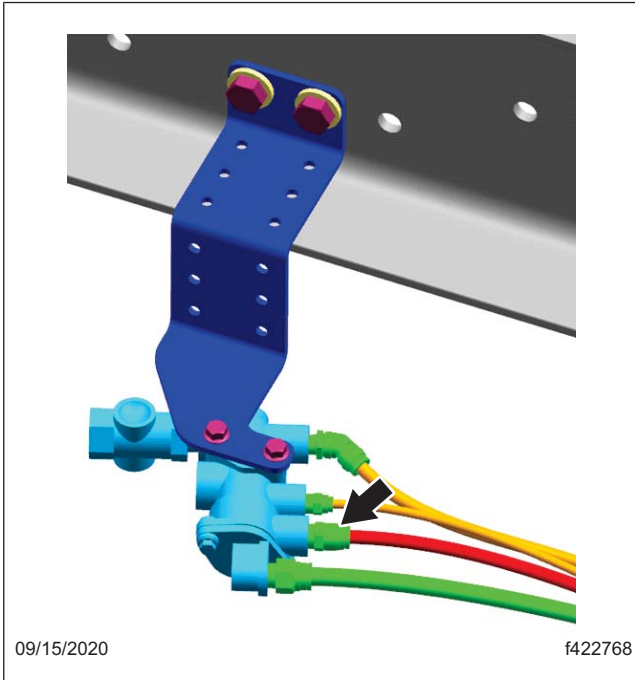
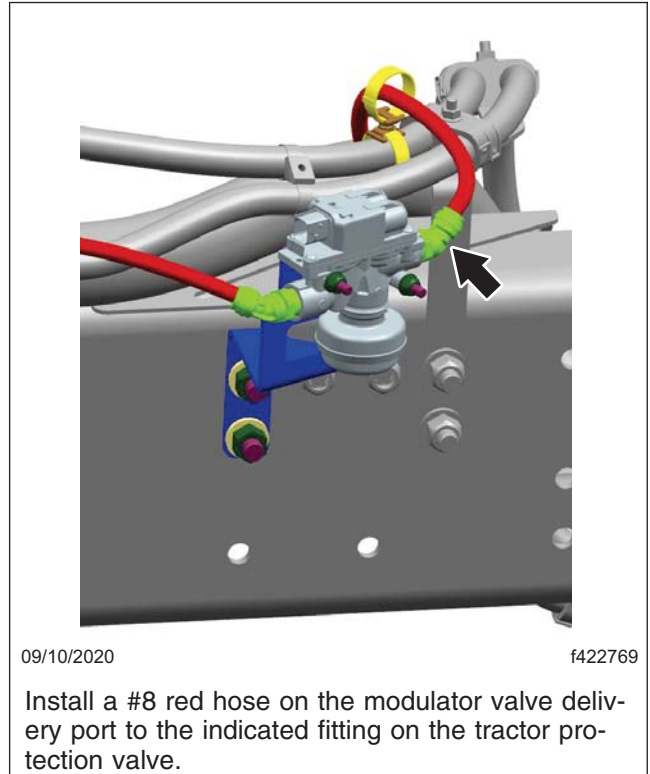

Fig. 33, Removing the Red #8 Hose from the Fitting, Tractor Protection Valve
Fig. 34, Modulator Valve Delivery Port
15. On the tractor protection valve, remove the red #8 hose from the fitting shown in Fig. 33. Install a #8 red hose on the modulator valve delivery port to the indicated fitting on the tractor protection valve. See Fig. 34.